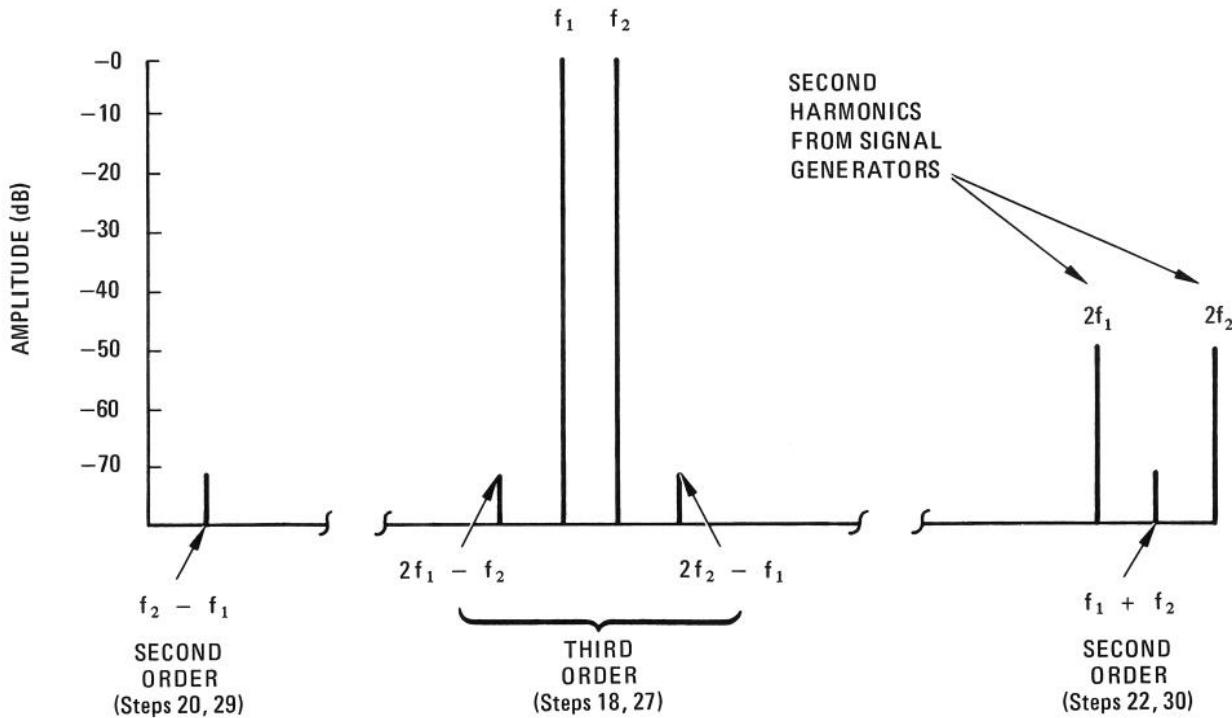

FIGURE 4-15. INTERMODULATION DISTORTION PRODUCTS
18. Reduce spectrum analyzer RESOLUTION BW to 3 kHz and check for third order intermodulation distortion products at approximately 3 divisions to either side of center graticule line (see NOTE below). They should be more than 70 dB below input signals ( $-100$  dBm on spectrum analyzer display). (See Figure 4-15.)
20. Set spectrum analyzer TUNING to 1 MHz and momentarily press FREQUENCY CAL switch. Set RESOLUTION BW to 3 kHz and adjust VIDEO FILTER as necessary for more than 70 dB display range. Check for second order intermodulation distortion product ( $f_2 - f_1$ ) near center of display (see NOTE, below). Second order intermodulation distortion product should be more than 70 dB below the total applied signal ( $-110$  dBm on spectrum analyzer display). (See Figure 4-15.)
22. Check for second order intermodulation distortion product ( $f_1 + f_2$ ) between  $2f_1$  and  $2f_2$  signals (see NOTE below). Set RESOLUTION BW to 3 kHz and adjust VIDEO FILTER as necessary for more than 70 dB display range. Second order intermodulation distortion product should be more than 70 dB below total applied signal (-110 dBm on spectrum analyzer display). (See Figure 4-15.)
29. Set spectrum analyzer TUNING to 1 MHz and momentarily press FREQUENCY CAL switch. Set RESOLUTION BW to 3 kHz and adjust VIDEO FILTER as necessary for more than 70 dB display range. Check for second order intermodulation distortion product ( $f_2 - f_1$ ) near center of display (see NOTE below). Second order intermodulation distortion product should be more than 60 dB below total applied signal (-100 dBm on spectrum analyzer display). (See Figure 4-15.)
30. Set spectrum analyzer TUNING to 8 MHz and check for second order intermodulation distortion product ( $f_1 + f_2$ ) between  $2f_1$  and  $2f_2$  signals. (See figure 4-15.) Second order intermodulation distortion product should be more than 60 dB below total applied signal (-100 dBm on spectrum analyzer display). (See NOTE above.)